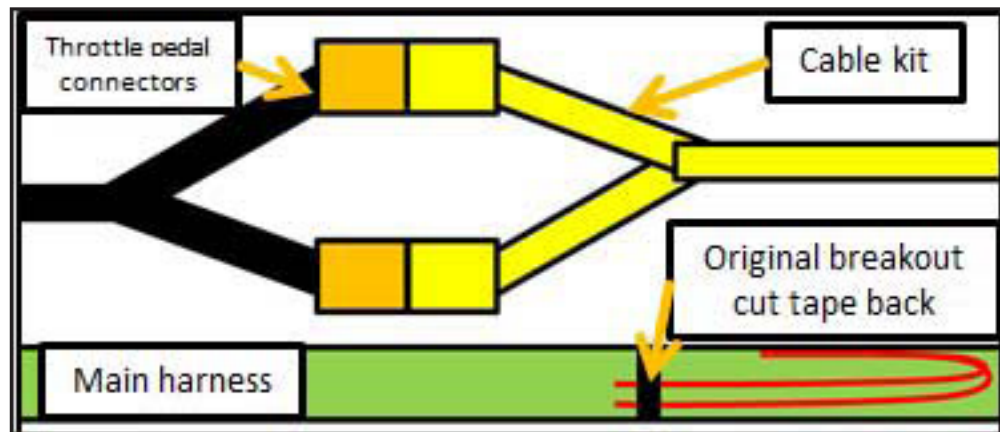

Figure 19 - Front to Back Cable Connection
- 2.6. Cut the original throttle pedal connectors on the main harness side and tape back the original breakout wires. Connect the throttle pedal connectors to the front to back cable connectors (+DH-X01D and +DH-X01E) and secure with tie wraps from the throttle pedal connectors to the ITS compartment (see Figure 19).